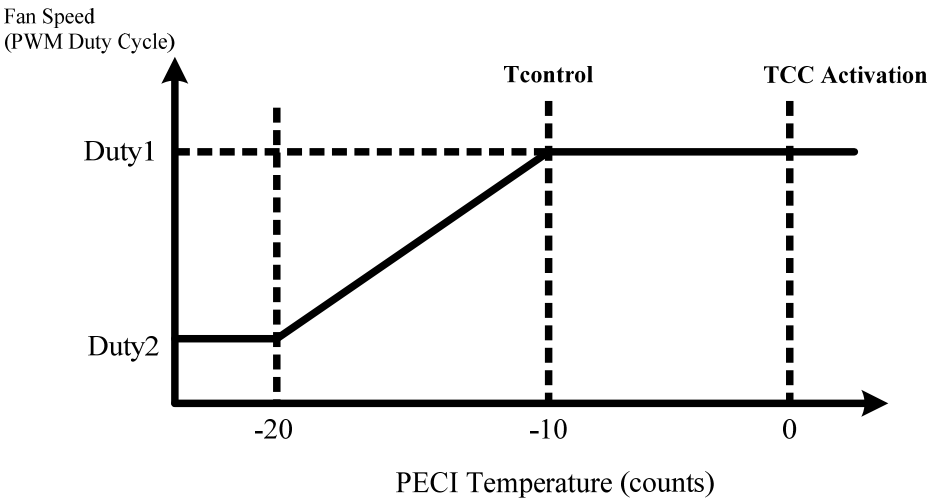

Figure-1 PECI Temperature
Figure-1 shows a typical fan speed (PWM duty cycle) and PECI temperature relationship.
**Figure-2** shows the temperature/fan speed relationship after Tbase offsets are applied (based on **Figure-1**). This view is from the perspective of the W83795G/ADG fan control circuit.